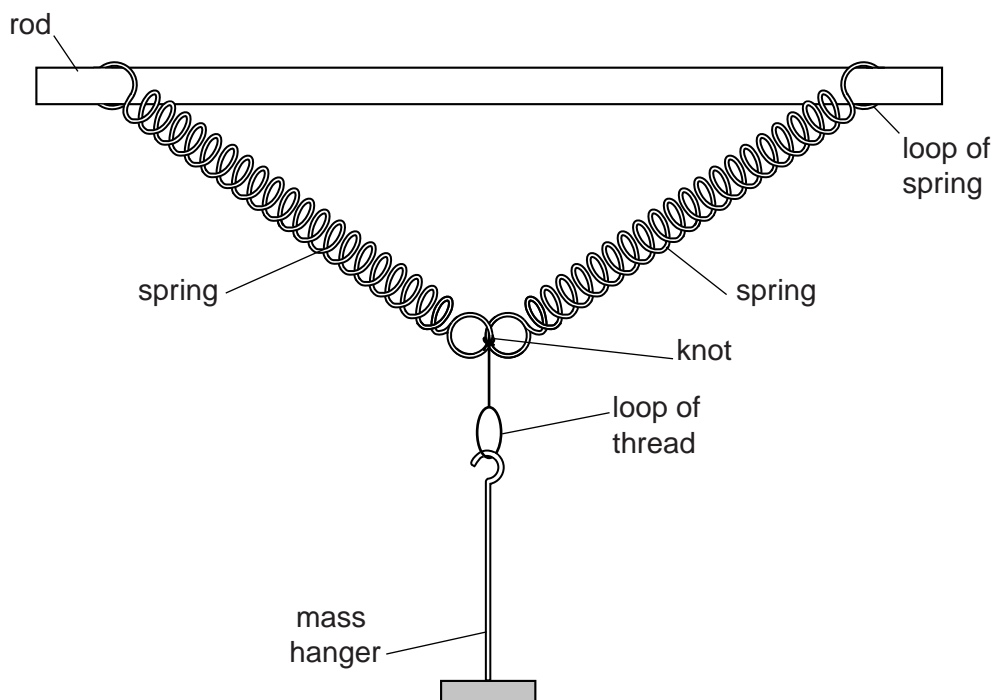

Fig. 4.2
3. The clamp, boss and stand should support the rod at its centre so that it is about 50 cm above the bench. The Supervisor should hang a total mass of 600 g from the loop in the thread, to check that the masses do not touch the bench. If the masses touch the bench, the height of the rod should be increased. The loops should then be secured to the rod with adhesive tape. The Supervisor should remove the slotted masses but leave the mass hanger in position, as shown in Fig. 4.2.
4. At the changeover, the Supervisor should remove any slotted masses from the hanger and check that the apparatus is still set up as in Fig. 4.2.